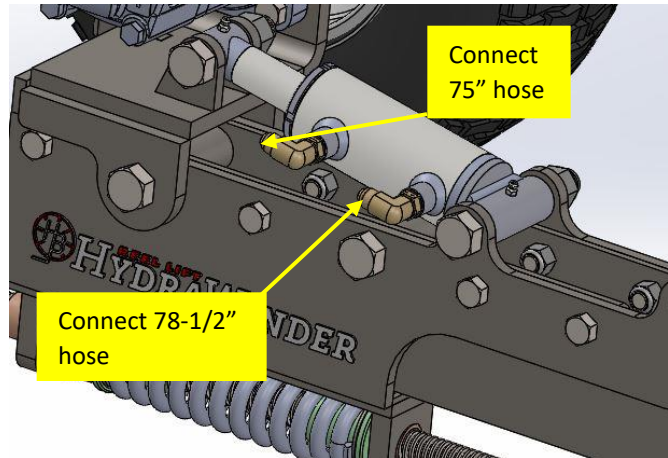

Figure 19
18. Connect the 78-1/2-inch hose (**ITEM 2**) installed in step 8 to the fitting closest to the base end of the cylinder and the remaining 75-inch hydraulic hose installed in step 8 to the fitting at the rod end of the cylinder. Route the hoses along the existing hoses of the **HydraWinder** and secure them with heavy tie straps. **Figure 19 & 20**